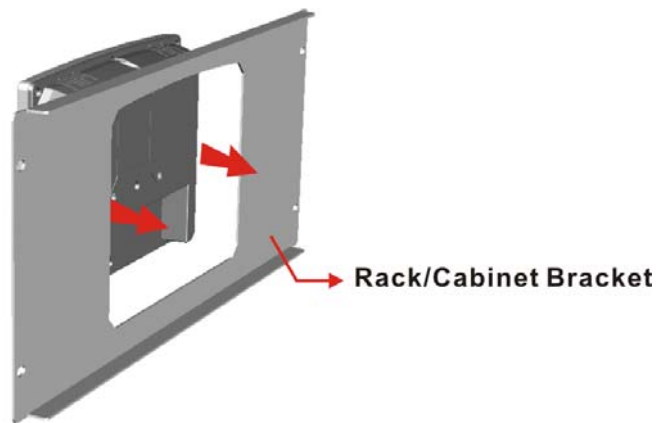

Figure 3-26: The Rack/Cabinet Bracket
Step 1: Slide the rear chassis of the AFL-xxA-N26 series flat panel PC through the rack/cabinet bracket until the aluminum frame is flush against the front of the bracket (**Figure 3-26**).